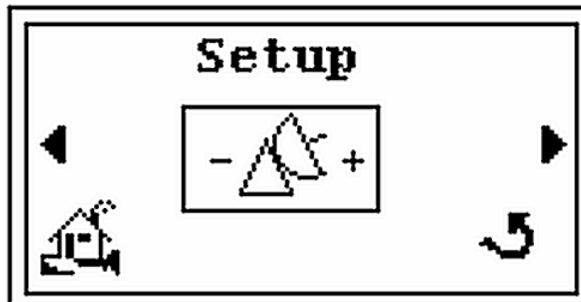

Figure 2-20 Setup Screen
3. Press the  and the *Setup* screen appears (Figure 2-20).